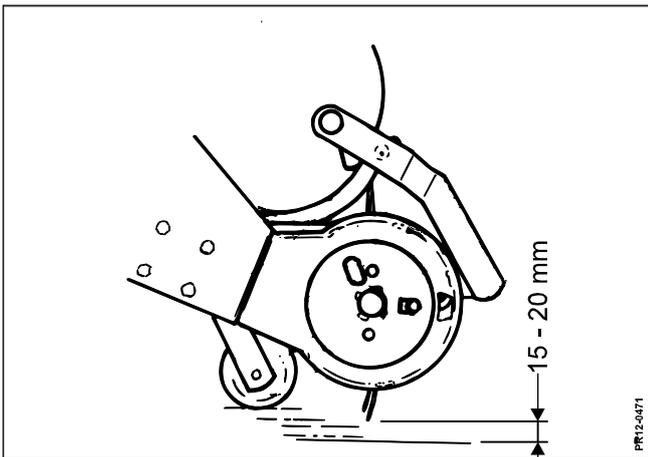

Fig. 4.5
**Fig. 4.5** The pick-up is equipped with supporting rollers which are adjustable in the height. Always keep the largest possible distance so that the pick-up springs do not leave earth in the crop and so that they pick up the grass without waste.